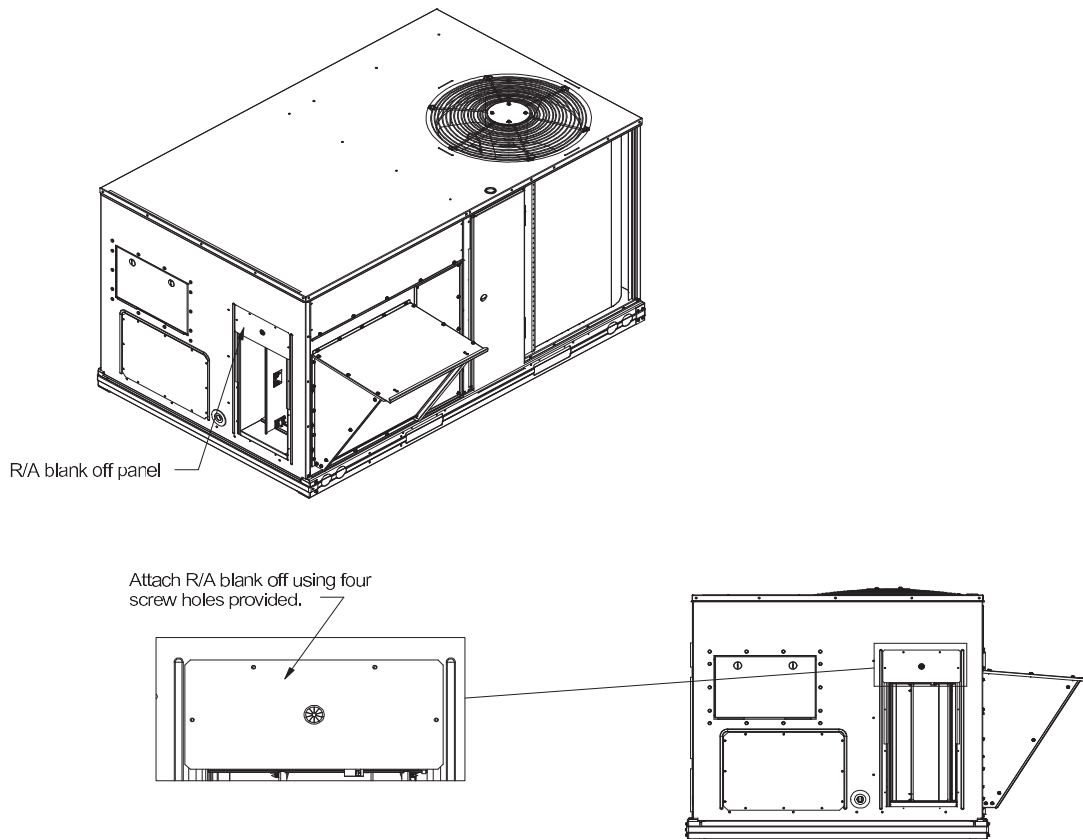

Fig. 13 - RA Blank-Off Plate Installation
14. Attach RA Blank-Off Panel with provided #10 x 5/16" screws - See **Fig. 13**.